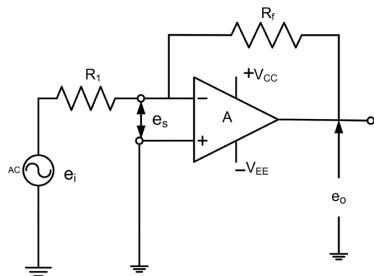

Fig. P23.1 Inverting Amplifier
4. Connect R₁ and R_f as shown in Fig. P23.1.